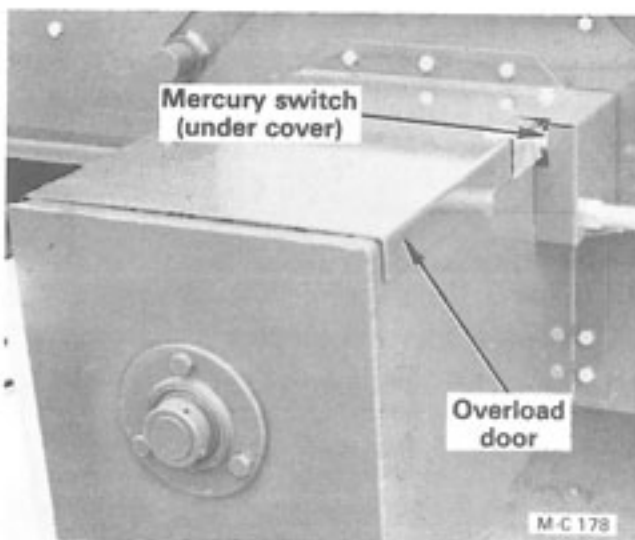

Figure 23
1. If the customer supplied grain take away system fails, the dryer will continue to discharge grain until the rear discharge overload door, Figure 23, is raised by the grain.